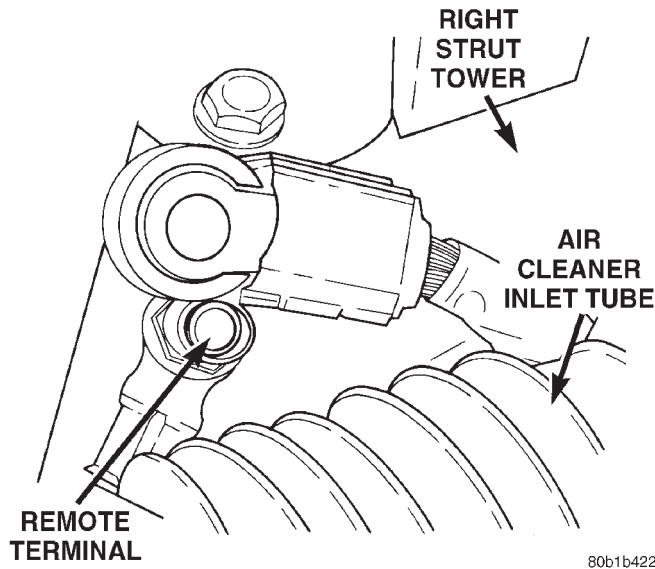

**Fig. 2 Negative Battery Cable Remote Terminal**
(1) Open hood and disconnect the negative battery cable remote terminal from the remote battery post (Fig. 2).
(2) Connect scan tool (DRB) to Data Link connector, located on the left side of the steering column and at the lower edge of the instrument panel.
- (2) Remove one screw to shift knob.
- (3) Remove two screws to shifter bezel.
- (4) Disconnect power outlet connector and remove bezel from vehicle.
- (5) Remove left instrument panel endcap covering junction block.
- (6) Remove two screws to steering column cover then pull toward rear of vehicle to disengage clips.
- (7) Open glove box door. Continue to pull down on the door until the glove box drops and you see the screws in the upper and lower left corner or the glove box bin.
- (8) Pull the right console side panel off.
- (9) Remove two screws to left console side panel and pull off.
- (10) With the Airbag Control Module (ACM) now exposed, slide the red Correct Position Assurance (CPA) tab out. Press down on the locking latch and disconnect the ACM 23-way connector.
(2) Open glove box door and release side tabs and swing down.
(3) Remove the left endcap at the junction block.
(4) Remove two screws to steering column cover then pull toward rear of vehicle to disengage clips.
(5) Open glove box door. Continue to pull down on the door until the glove box drops and you see the screws in the upper and lower left corner or the glove box bin.
(6) Remove the instrument panel center bezel. The temperature control module, power outlet and traction control switch will pop out with the center bezel.
(7) Disconnect the connectors at center bezel.
(8) Remove four screws to Chin bezel. Two on the right side and two on the left side of vehicle.
(9) Remove one screw and one push fastener retaining floor bin.
(10) With the Airbag Control Module (ACM) now exposed, slide the red Correct Position Assurance (CPA) tab out. Press down on the locking latch and disconnect the ACM 23-way connector.
(1) Place the front road wheels in the straight ahead position then:
(2) Open hood and disconnect the negative battery cable remote terminal from the remote battery post (Fig. 2).
(3) Wait two minutes for the reserve capacitor to discharge before removing non deployed module.
(4) Remove speed control switch mounting screws, from the back of the steering wheel, and disconnect the wire connectors or remove covers.
(5) Remove the Driver Airbag Module attaching bolts.
(6) Lift module and disconnect the airbag and horn wire connectors.
(7) Remove the steering wheel. Refer to Group 19, Steering for Removal and Installation procedures.
(8) Remove the tilt wheel release lever.
(9) Remove upper and lower steering column shrouds to gain access to clockspring wiring.
(10) Disconnect the 2-way and 4-way connectors between the clockspring and the instrument panel wiring harness at the base of the clockspring.